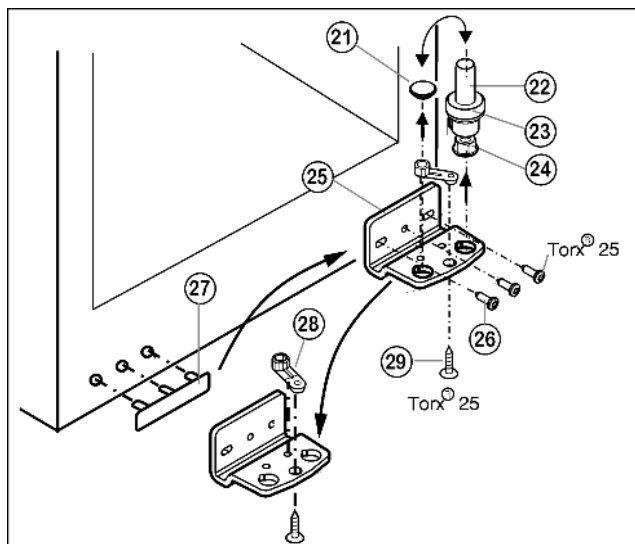

Fig. 6
- Lift out the bearing pin Fig. 6 (22) together with washer Fig. 6 (23) and adjustable-height foot Fig. 6 (24).
- Lift off the stopper Fig. 6 (21).
- Unscrew Fig. 6 (26) the turn hinge Fig. 6 (25).
- Unscrew Fig. 6 (29) the bearing element Fig. 6 (28), transfer it to the opposite location hole of the turn hinge and screw it firmly into place.
- Carefully lift off the cover on the handle side Fig. 6 (27) and transfer it to the opposite side.
- Screw the turn hinge Fig. 6 (25) firmly into place on the new hinge side, possibly using a cordless screwdriver (with 4 Nm).
- Re-insert the stopper Fig. 6 (21) into the other hole.
- Re-insert the bearing pin Fig. 6 (22) together with the washer and adjustable-height foot. In so doing, pay attention that the locating lug points backwards
- Lift the stopper (33) out of the door bearing bush and transfer it.
- Dismantle the door handle (32), stoppers (33) and pressure plates* (34) and transfer to the opposite side.
- Place the door from above onto the lower bearing pin Fig. 6 (22).
- Insert the upper turn hinge (12) in the door on the new hinge side.
- Screw the upper turn hinge (12) firmly into place (with 4 Nm)(2x Torx® 25) (13). Possibly make preliminary holes with a bradawl or use a cordless screwdriver.
- Snap the cover (10) and cover (11) into place at the opposite side.
- Align the door to the appliance housing by way of the two oblong holes in the bottom turn hinge Fig. 6 (25). To do so, unscrew the middle screw.